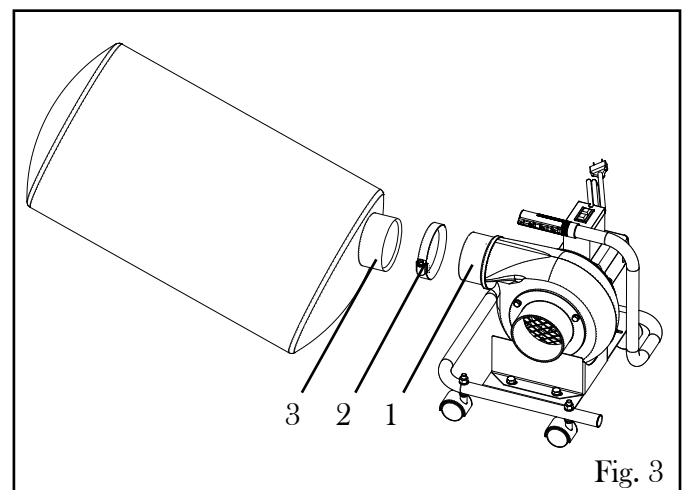

Fig. 3
1. Place the clamp (Fig. 3 - 2) over the exhaust port of the dust collector (Fig. 3 - 1).
2. Place the mouth of the collection bag (Fig. 3 - 3) over the exhaust port. Then, slide the clamp (Fig. 3 - 2) over the mouth of the bag.